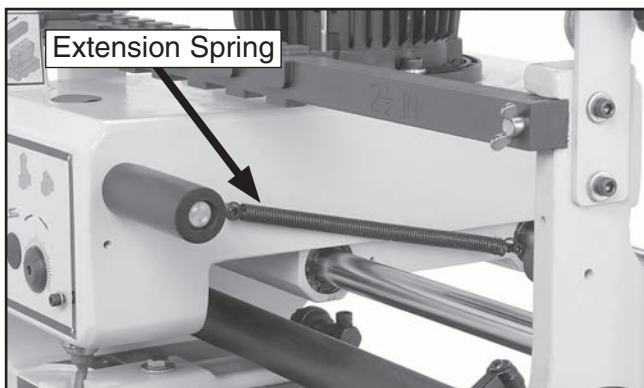

Figure 24. Extension spring.
1. Remove the extension spring shown in **Figure 24**, and pull the headstock backward (toward you) to clear the tracer pin of the template.